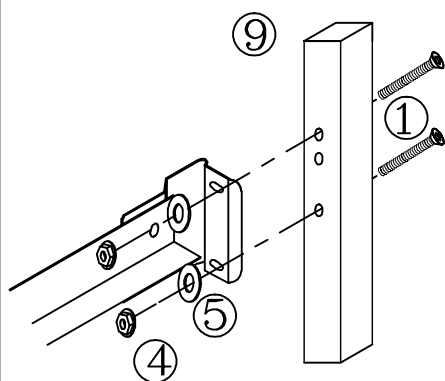
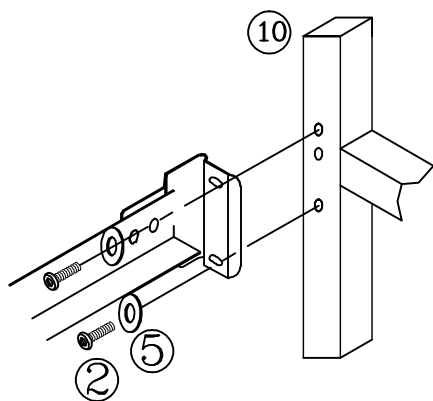

FIGURE 2
FIGURE 3
- Now carefully insert extension leg (9) into bottom of panel (10) posts.
- Secure leg extension leg (9) with screws (3) and washer (5) to panel (10).
- Place 2 screws (1) through holes located in leg (9). (See Figure 2)
- Place a flat washer (5) first and then a nut (4) on each screw. Hand-tighten, DO NOT TIGHTEN screws all the way.
- Tighten all screws securely using the Allen wrench (7) and open wrench (8).
- Discard Leg extension (9) for footboard attachment to frame.
- Position panel (10) and align holes in the post with holes in the frame bracket. (See Figure 3)
- Place washer (5) over on each screw (2). Insert through bracket and into panel (10) post. Hand-tighten, DO NOT TIGHTEN screws all the way.